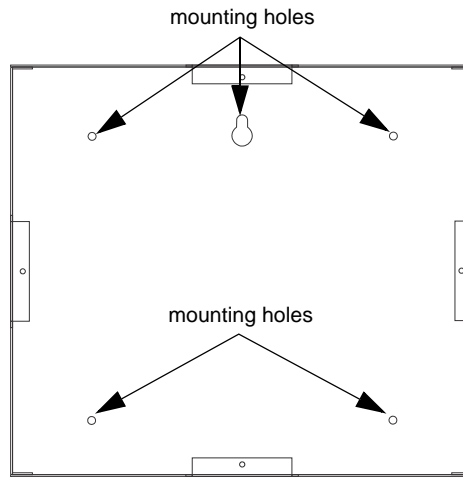

Figure 4.20 TR-RD2G/R Backbox Mounting
2. Mark and pre-drill hole in the wall for the center top keyhole mounting bolt. Refer to Figure 4.20 for mounting hole locations.